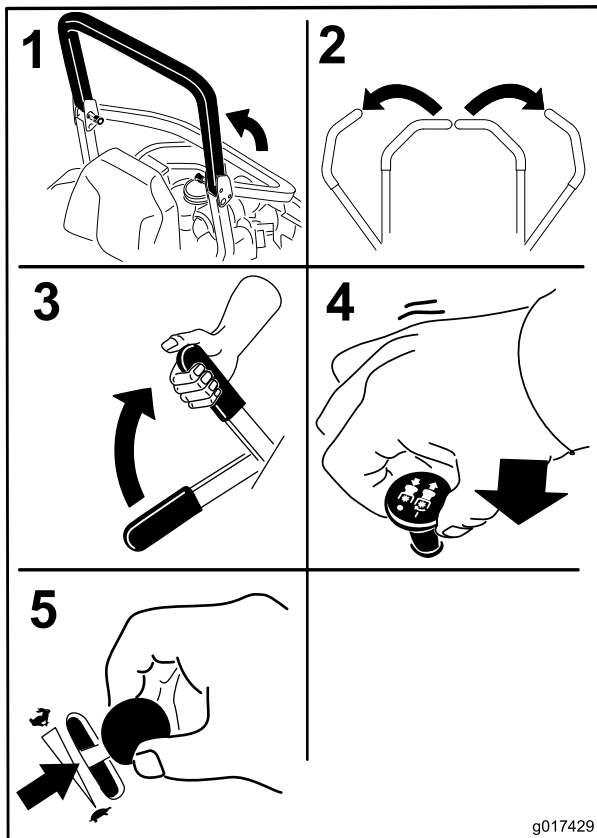

Figure 17
4. Move the blade control switch (PTO) to the Off position (Figure 17).